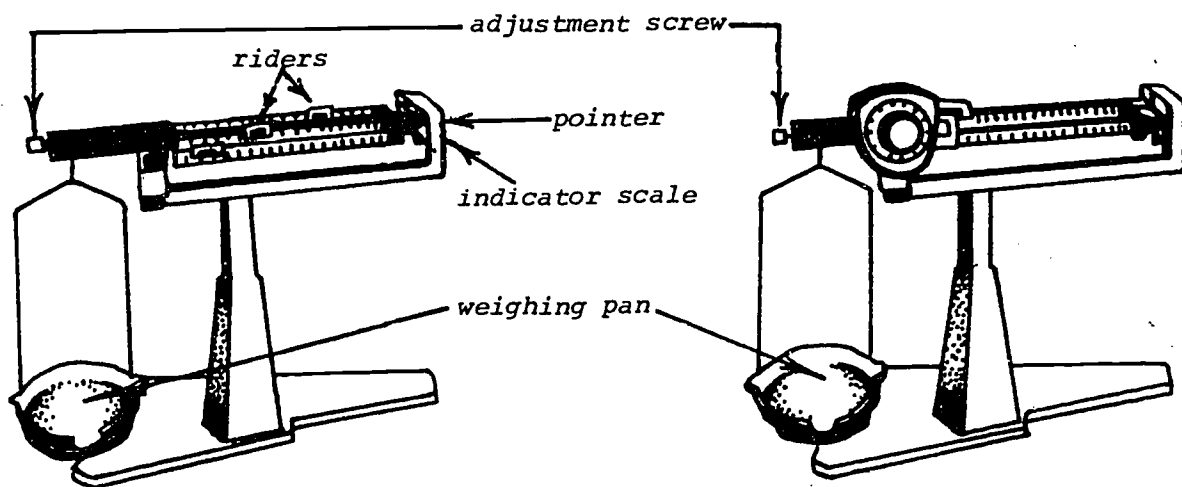

FIGURE 2: Parts of a balance.
1. Although there are many different types of balances, they all have certain features in common. Compare the balance you will be using with Figure 2. Locate the labeled parts on your balance. The balance should have a weighing pan that is connected to horizontal beams. On the beams are sliding riders. In laboratory use, materials placed in the weighing pan are counterbalanced by the riders that are moved to different positions along the beams. The total mass in grams is determined by adding up the numbers marked by the riders. The largest amount that can be weighed is the sum of the highest numbers on the beams. What is the maximum capacity in grams of the balance you will be using?
1. Place a dry 50-ml beaker on the weighing pan. The beaker can be weighed by moving the riders until the pointer rests near the middle of the indicator scale (Figure 2). Remember that you do not need to wait for the pointer to come to a complete rest (see Part I, Step 2).